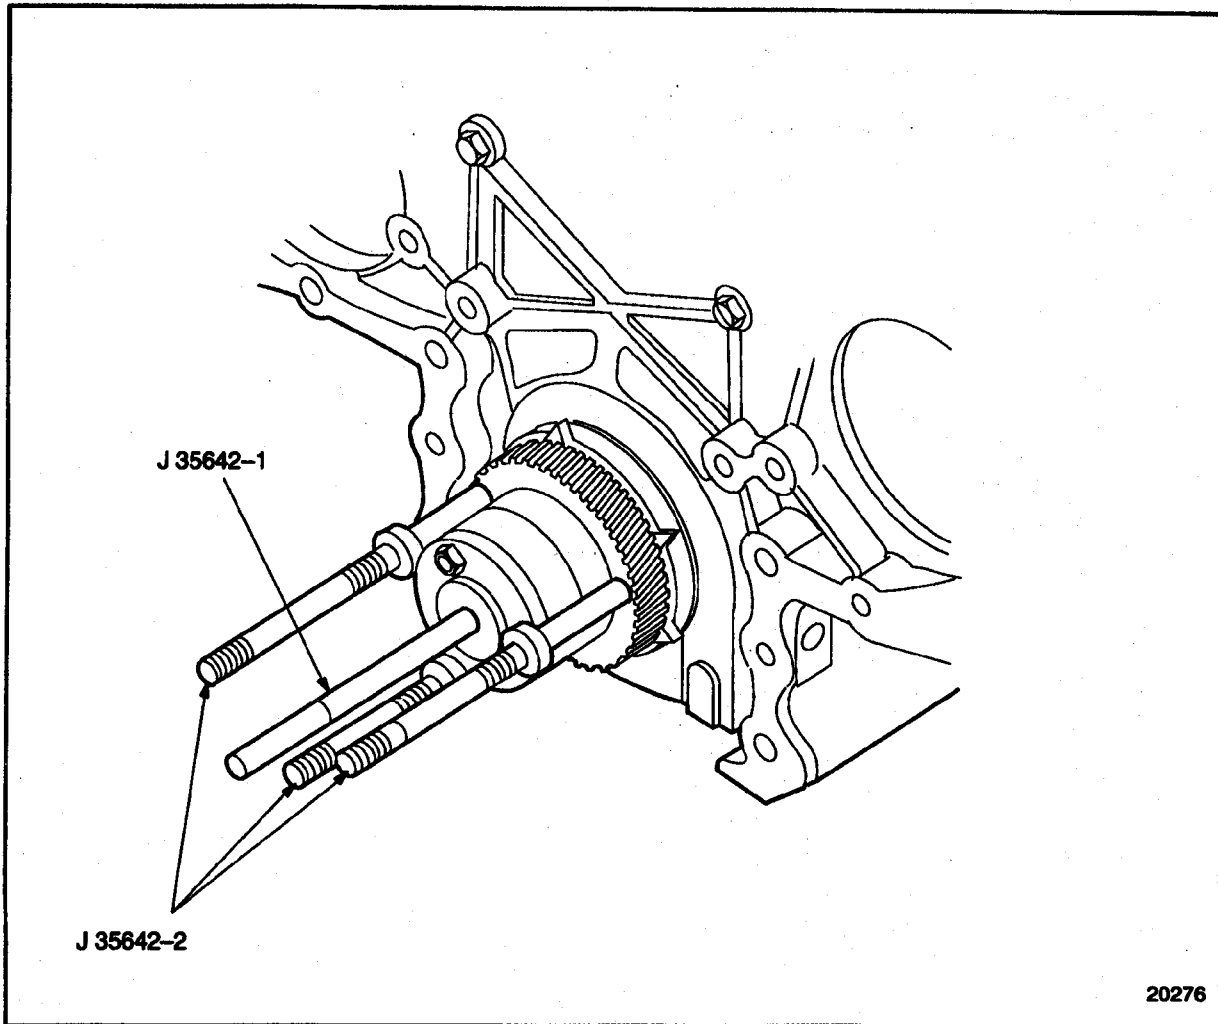

Figure 1-391 Installation of Crankshaft Timing Gear Removal Tools
1. Install J 35642-1 part of J 35642 to the end of the crankshaft, using two crankshaft pulley retaining bolts. Torque the bolts to 190 - 203 N·m (140 - 150 lb-ft). See Figure 1-391.